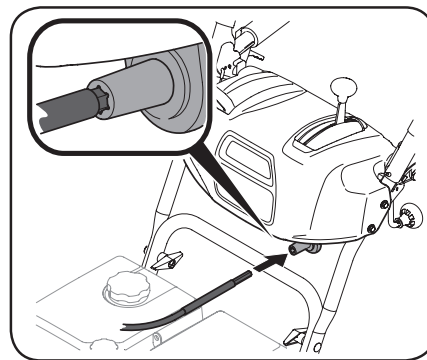

Figure 2-33
6. Insert hex end of flex shaft into chute control rod coupling under dash panel. See Figure 2-33.